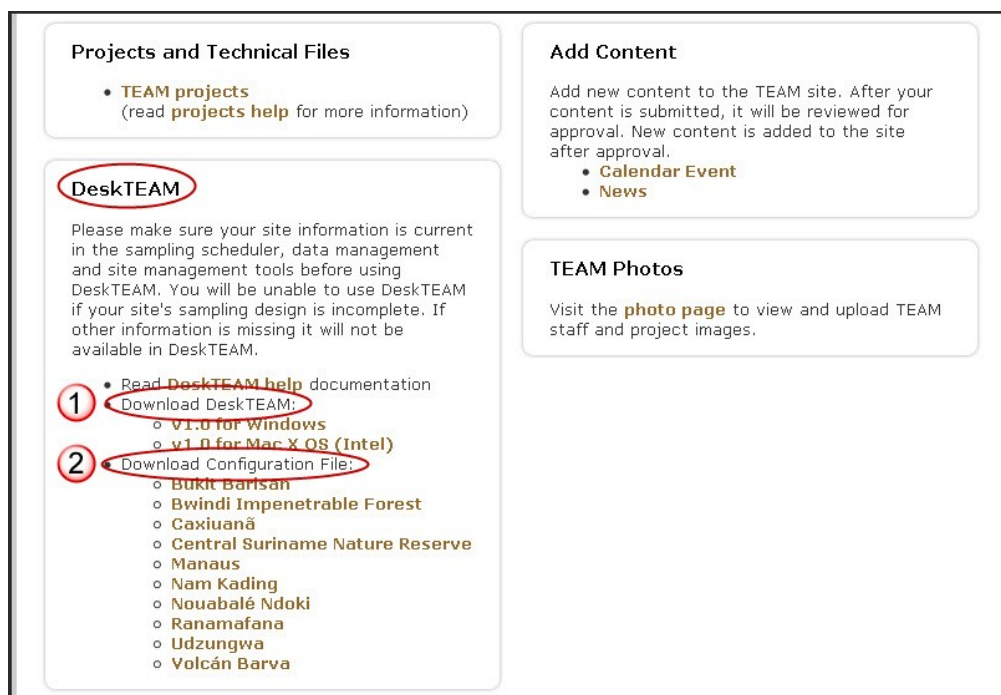

Figure 9. Screenshot showing the location of the (1) DeskTEAM and (2) configuration file downloads. Only download the configuration file for your specific site.
2. **Download DeskTEAM.** Click the myTEAM link on the top of the page and find the box labeled DeskTEAM. In this box, click the link titled v1.0 for Windows (Mac users should click the v1.0 for Mac OS (Intel) link) and save the file when prompted. Refer to Figure 9 for an image of the download location.
3. **Download configuration file.** While on the myTEAM page, click on the link for your site under the Download Configuration File heading in the DeskTEAM box. See Figure 9 below for a visual reference.